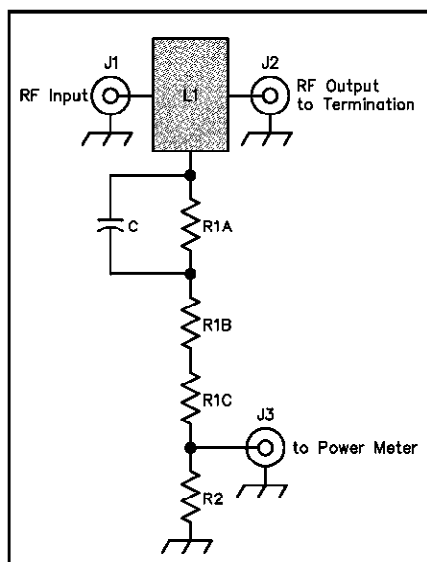

Figure 3—A tap that attenuates a high-power signal for use with the power meter. See the text and Figure 4 for discussion of the capacitor, C.
Transmitter powers are rarely as low as the maximum that can be measured with this power meter. Several circuits can be used to extend the range including the familiar attenuator. Perhaps the simplest is a resistive tap, shown in Figure 3. This circuit consists of a flat piece of metal, L1, soldered between coaxial connectors J1 and J2, allowing a transmitter to drive a 50-Ω termination. A resistor, R1, taps the path to route a sample of the signal to J3, which connects to the power meter. R2 shunts J3, guaranteeing a 50-Ω output impedance. Selecting the values that comprise R1 establishes the attenuation level.
**Figure 4—Drawing of the 40-dB power tap assembly shown schematically in Figure 3. The center conductors of the two N connectors (RF INPUT and RF OUTPUT) are connected by a 1×1½-inch piece of sheet brass with its corners removed to clear the pillars in the Hammond 1590A die-cast aluminum enclosure. C1 is made from a piece of #22 AWG insulated hook-up wire; it extends 0.6 inch beyond the edge of the tinned metal piece and almost rests against the two resistor bodies.**
An inside view of the simple attenuator shown in Figure 3.
The tap of Figure 3 extends transmitter testing with the setup of Figure 7B. A good dummy load (termination) is placed on the tap output with the transmitter attached to the input. The power in dBm is now that read on the meter in dBm plus the tap attenuation in decibels.